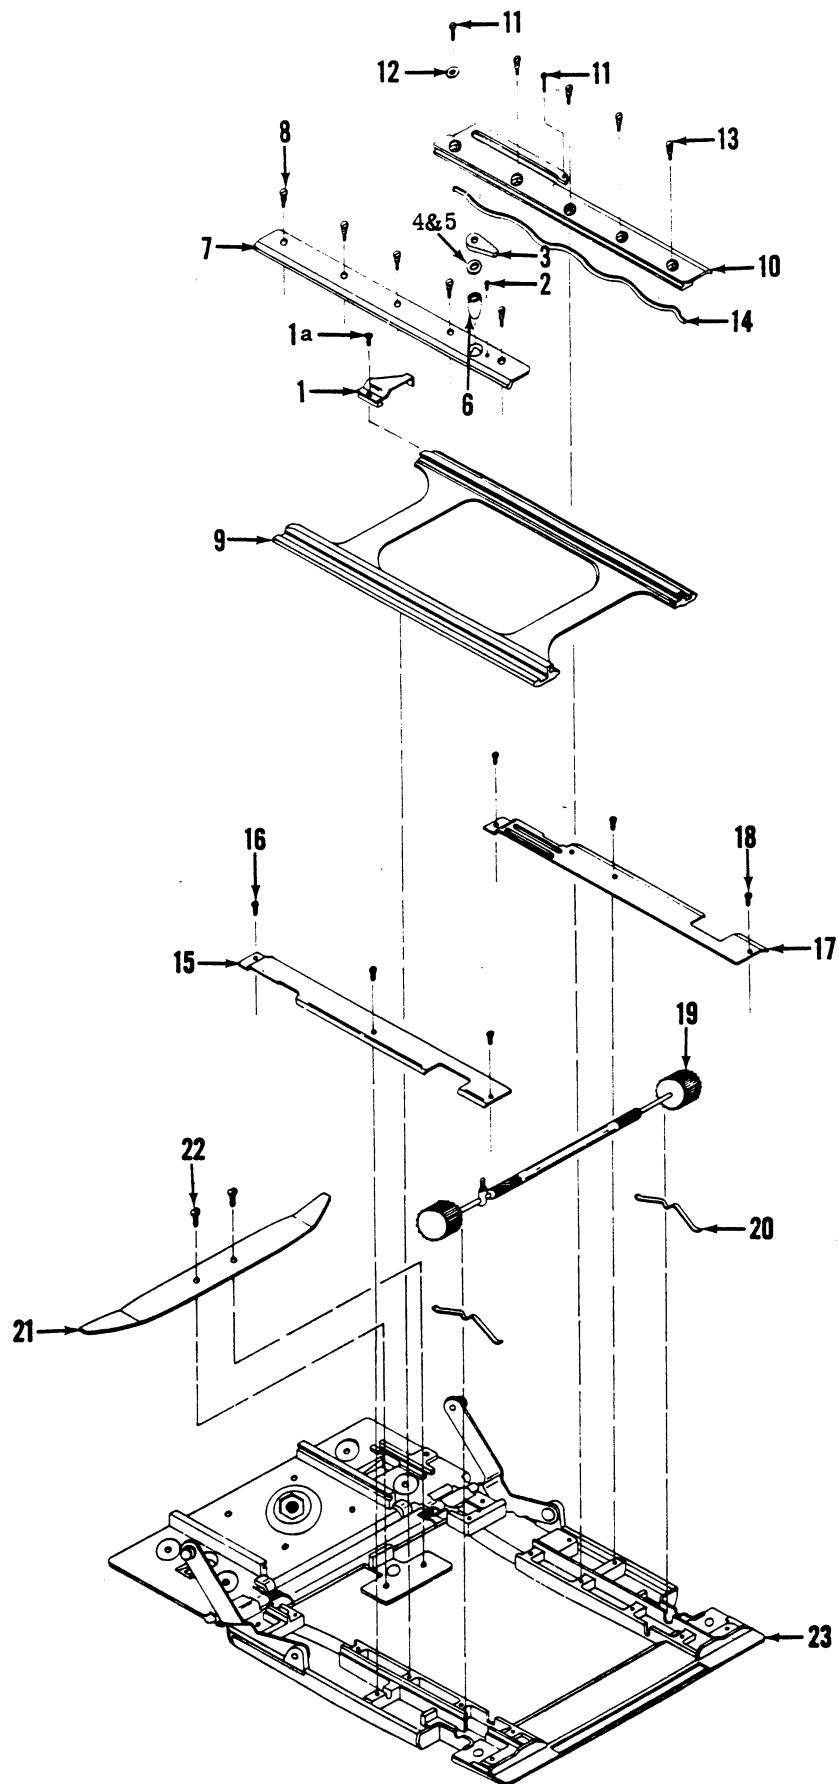

Figure 11. BED COMPLETE
W. BED COMPLETE - DISASSEMBLY AND REASSEMBLY (Figure 11)
a. Remove rangefinder actuating bracket assembly (1) by removing one machine screw (1a). The machine screw is part of the rangefinder actuating bracket assembly.
b. Remove machine screw (2), yoke lock lever (3), flat washers (4 or 5) and yoke lock sleeve (6).
c. Remove right yoke guide (7) by removing five machine screws (8).
d. Remove bed yoke (9).
e. Remove left yoke guide (10) by removing two machine screws (11), one machine screw (12) and four machine screws (13).
f. Remove yoke spring (14) from underside of left yoke guide.
g. Remove right bed cover (15) by removing three machine screws (16).
h. Remove left bed cover (17) by removing three machine screws (18).